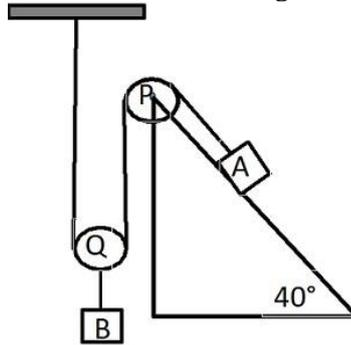

Figure 8
| 13 | a) | Determine the tension in the inextensible string and the acceleration of the masses as shown in Figure 8. Consider the pulley as massless and the coefficient of friction as 0.20. Block A=200 kg and block B=100kg. | CO4 | (9) |